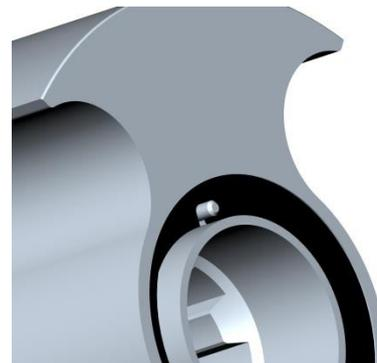

Figure 25 – Align the L cup to the rotor drive pin
- To fit the seal seat to the rotor (56), first insert L cup rubber (83) into the rotor (DO NOT lubricate), ensure alignment with the drive pin. (Figure 25).